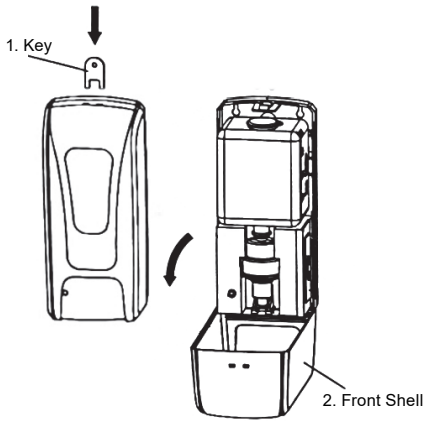

figure 1
2. Open the housing (figure 1) with the supplied key (1) and open the cover as shown (2)